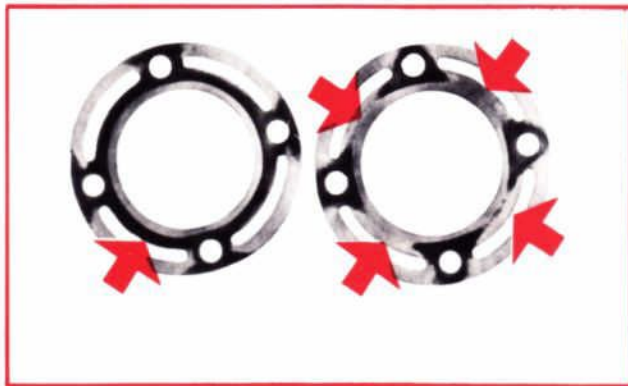

Figure 19—Improper Seal Area on Gasket Surface of Flange
- Internal leakage and low pressure will result if component parts such as the housing plate, pressure plates, cam insert, retainer end plate, pump valve assembly, or valve and cover assembly are not flat against mating surface or mating surfaces are damaged (figure 19).